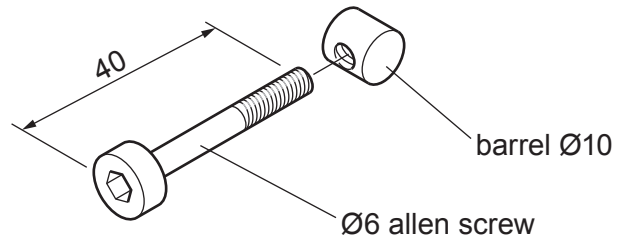
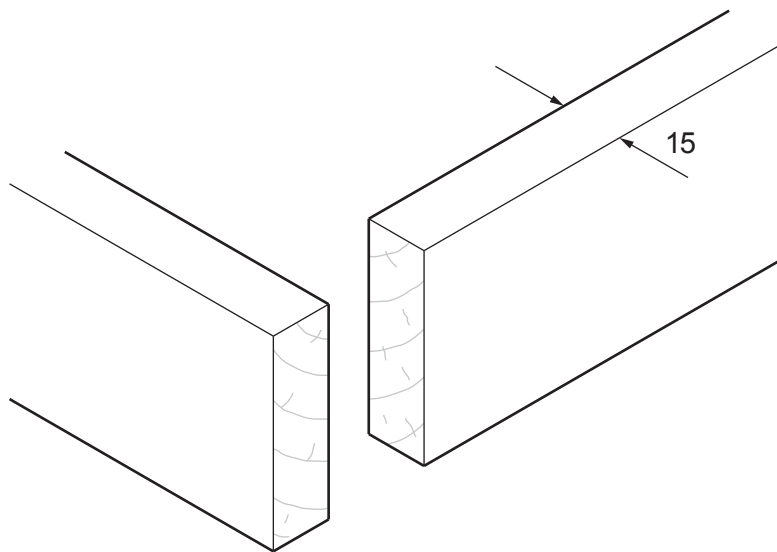

Fig. 9.1
Fig. 9.2
- 9 Fig. 9.1 shows details of a knock-down (KD) fitting.
Fig. 9.2 shows the corner of a small wooden box.
Add sketches to Fig. 9.2 to show how a corner joint could be made using the knock-down (KD) fitting shown in Fig. 9.1.